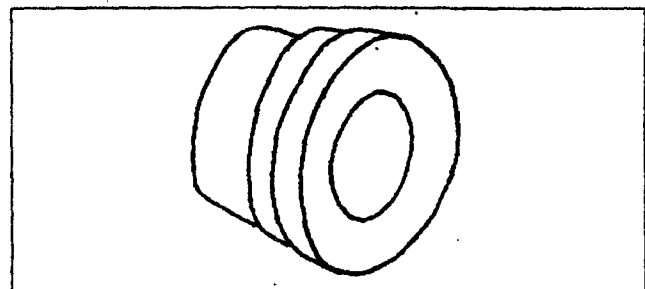

Fig.11
**#0018394 GCH3 Hub** (Fig.11).